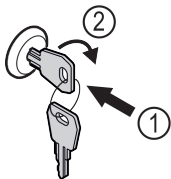

Fig. 126 Example illustration
- Insert key Fig. 126 (1).
- Turn key clockwise by 90° Fig. 126 (2).